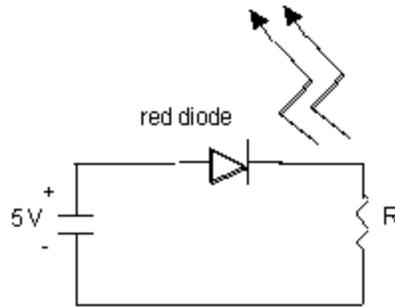

Figure 6. Series resistor-diode circuit with LED.
10. Replace the 1N914 diode from the previous circuit with a light emitting diode (LED), any color, as shown in Figure 6. Note that the LED is a diode, just as the 1N914 is (that is, have the same behavior as far as current flow and forward biasing goes) but the LED also emits light when current flows through it. The LED drops about 2 volts and should have about 20 mA of current flowing through it for good light emission. Calculate the resistance required and choose a resistor from the component drawers with a resistance close to the value you calculated. Construct the circuit. Try the diode in both directions to determine which lead is the anode. The terminology we use is that the LED will glow only when current enters through the anode and leaves through the cathode and not vice-versa. Which of the diode leads (the longer one or the shorter one) is the anode (+ terminal)? Record this result for later use.